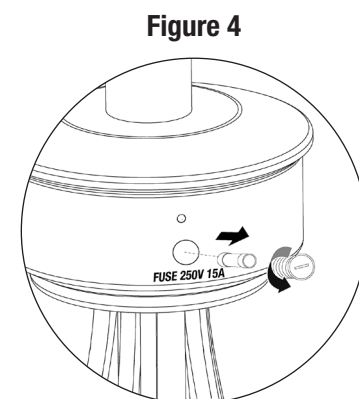

Figure 4
3. Using a screwdriver, remove the fuse cover. (Figure 4)